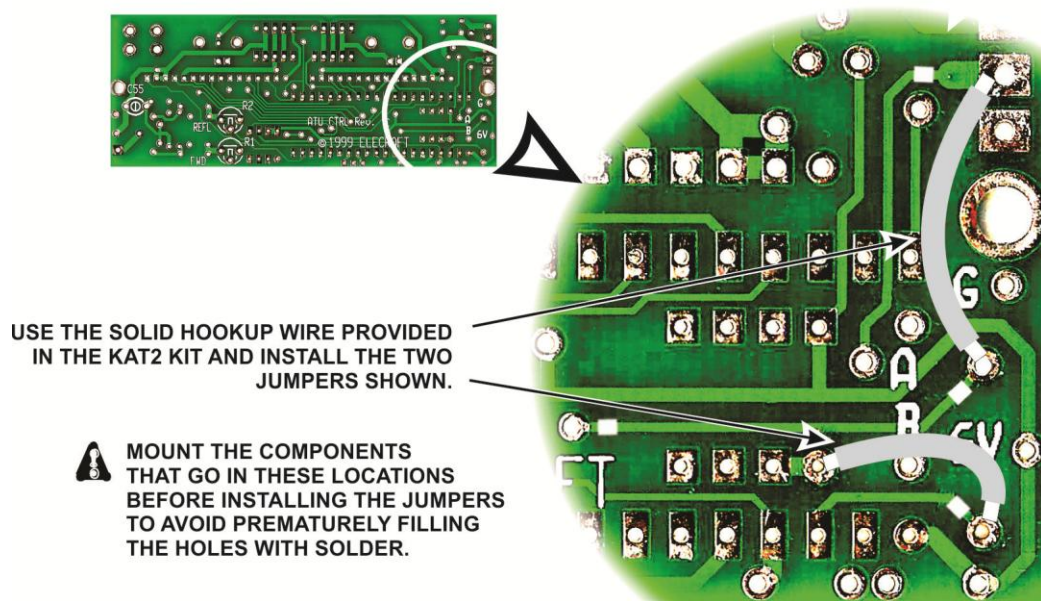

Figure 3. Installing Jumpers.
- Install the two jumpers shown in Figure 3 on the next page. **If you have not yet mounted the parts on the pc board, install the jumpers after installing the parts with leads that go through holes to avoid prematurely filling the holes with solder.**